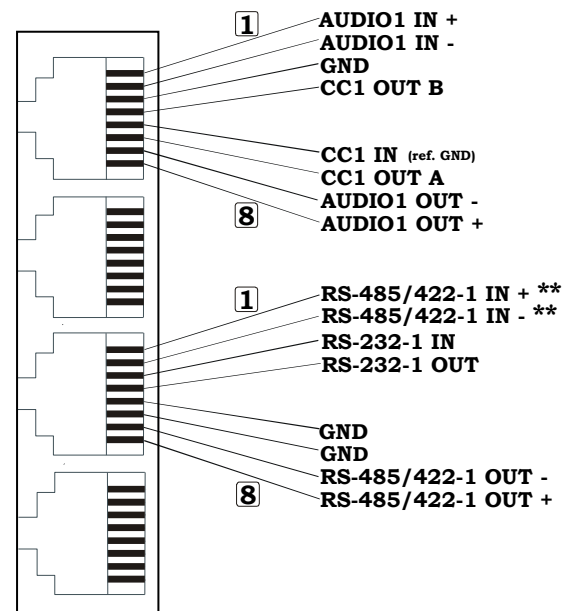

Figure 5.
The electrical port pin assignments (table 5) are such that similar ports of different units may be connected back to back with reversed cable (RS-232 interfaces excepted). See figure 5 for the pin numbering convention used.
** see note Figure 5